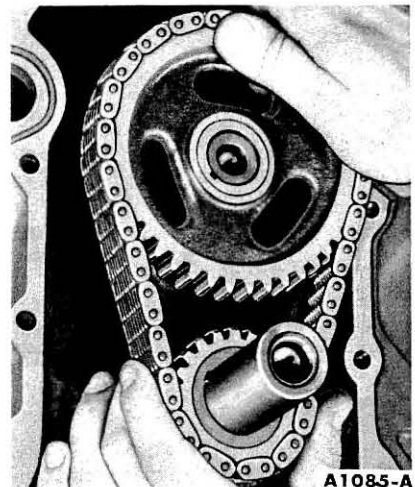

FIG. 16—Timing Chain Removal or Installation
3. Slide both sprockets and the timing chain forward and remove them as an assembly. (Fig. 16).